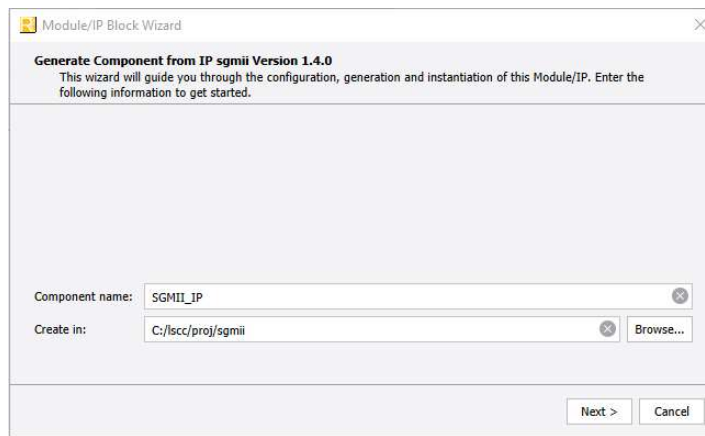

Figure 3.1. Module/IP Block Wizard
2. In the **IP Catalog** tab, double-click on **SGMII and Gb Ethernet PCS** under **IP, Connectivity** category. The **Module/IP Block Wizard** opens as shown in Figure 3.1. Enter values in the **Instance name** and the **Create in** fields and click **Next**.
- Click the **Finish** button. All the generated files are placed under the directory paths in the **Create in** and the **Instance name** fields shown in Figure 3.1.